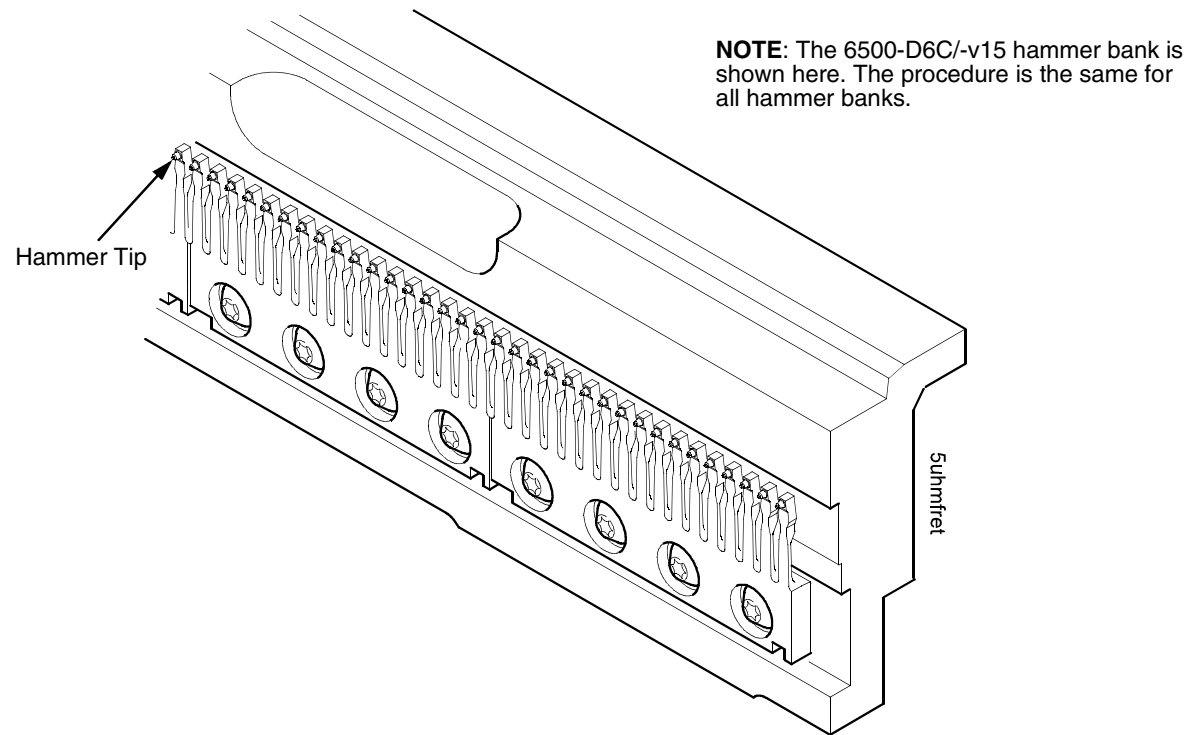

Figure 54. This figure shows a hammer tip for cleaning.
8. Using a stiff, non-metallic brush (such as a toothbrush), gently brush the hammer tips to remove lint and ink accumulations. (See Figure 54.) Vacuum up any residue.